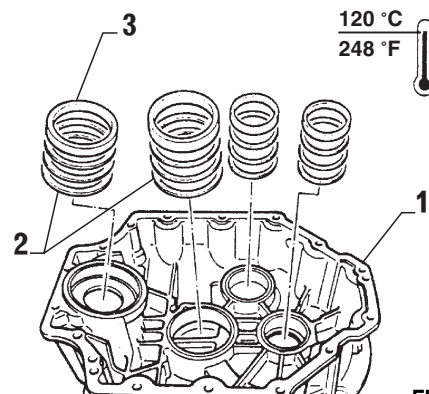

FIG. 5-2
Heat "input" half of the housing (item 1, Fig. 5-2) in an oven to approx. 120°C (248°F); insert shims and outer races of bearings into the housing (Fig. 5-2).